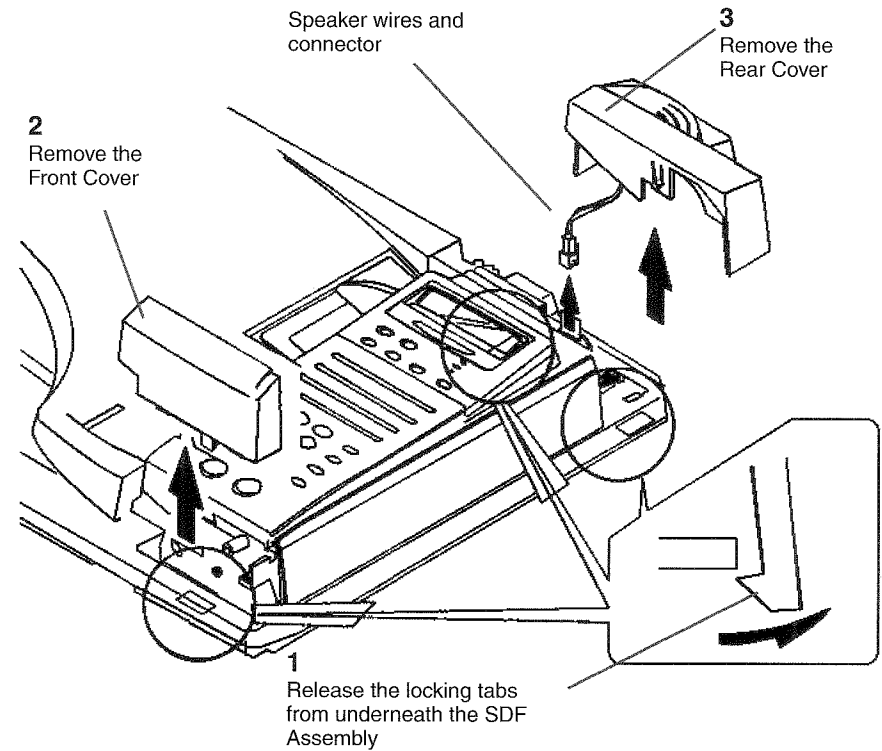

Figure 1 Removing the Front Cover and the Rear Cover
1. (Figure 1): Remove the Front Cover and the Rear Cover.